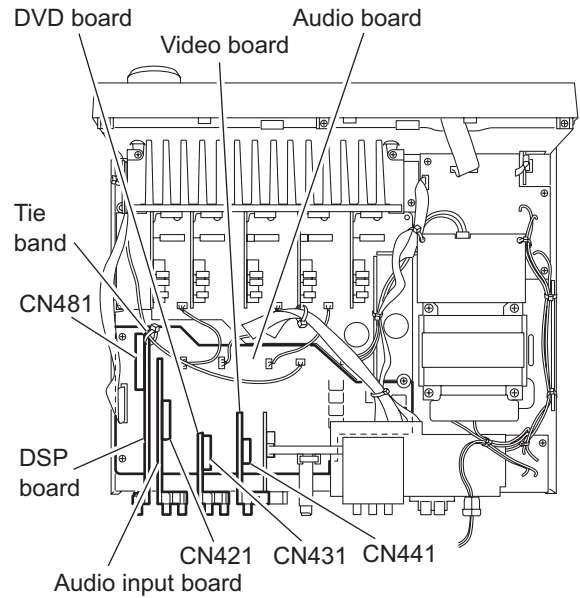

Fig.7
3.5 Removing the DSP board, audio input board, DVD board and video board (See Fig.7)